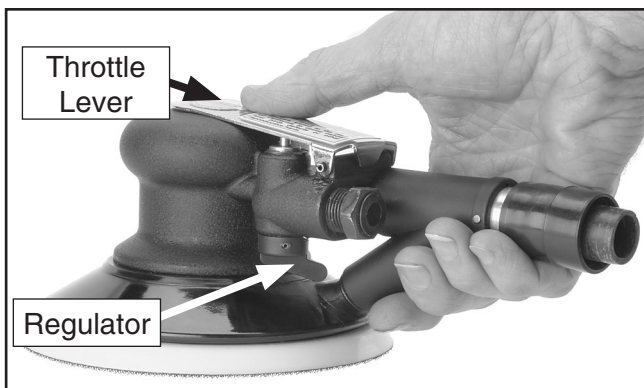

Figure 4. Sander controls.
- Hold the sander and press the throttle lever (**Figure 4**) to turn the sander **ON**.
- Turn the regulator (**Figure 4**) to adjust the sanding pad speed.